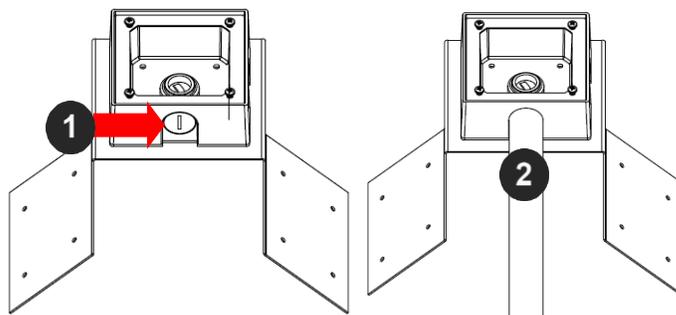

Figure 1: Attach conduit to AV-JBA junction box adapter
3. Attach the AV-JBA-W (Junction Box Adapter) to the Corner Mount Adapter (Figure 1).
4. Remove the conduit plug on the junction box adapter and connect $\frac{3}{4}$ " NPT conduit to the junction box adapter (Figure 1).